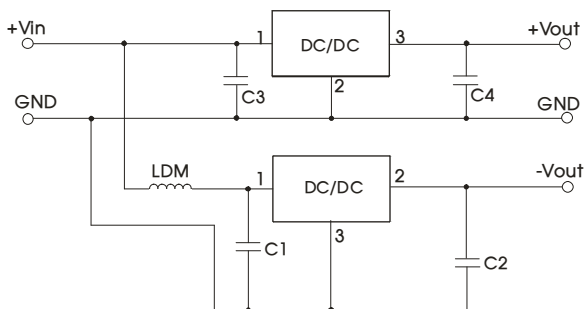

Fig. 3 Positive and negative output application circuit
3. When using configurations as shown in figure 3, we recommended to add an inductor (LDM) with a value of up to 10μH which helps reducing mutual interference;
5. To further reduce the output ripple and noise, we suggested the use of a "LC" filter at the output terminals, with an inductor value (L) of 10μH-47μH.